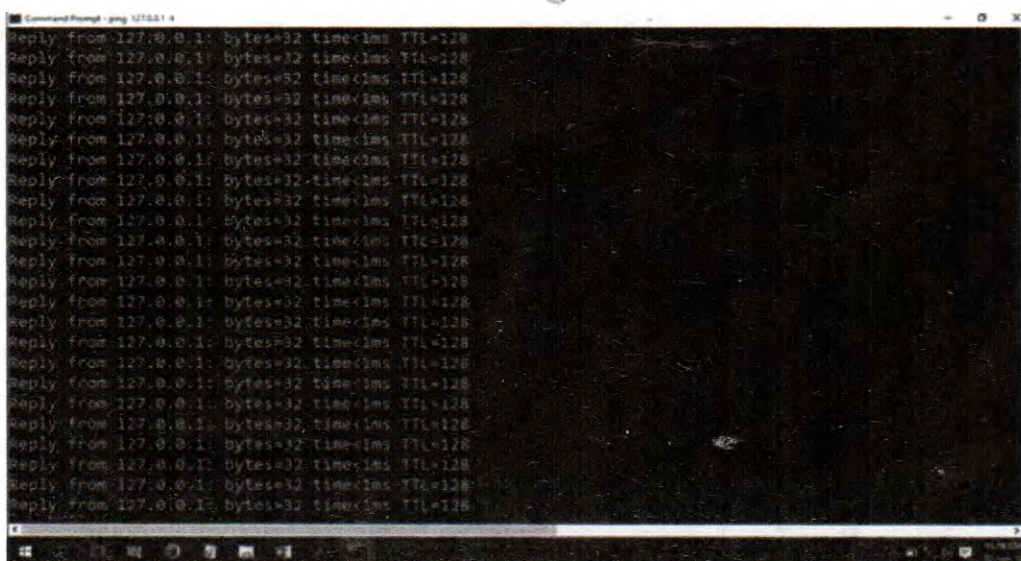

Figure 1.5: Reply Command from B2
- vi. Type in the command **“ping 192.168.1.2 -t”**. The PING (Packet Internet Gopher) command is a protocol that is used to test connectivity between two systems. When you execute the above PING command on host B1, it sends a message to the IP address 192.168.1.2 (The address for host B2) and then gets a reply from B2. The reply messages are as shown in Figure 1.5.